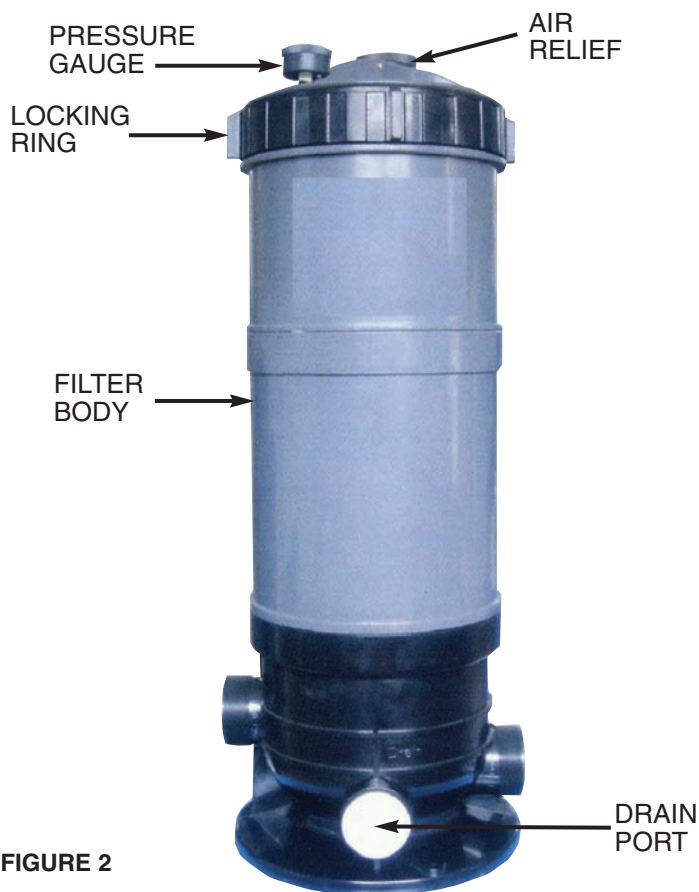

FIGURE 2
**NOTICE** 1. Tightly close plugs on Tank Drain Port (Figure 2).